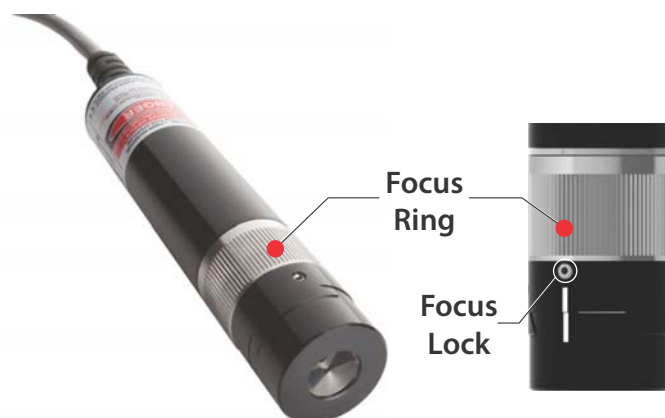

Figure 3-8. Focus Ring and Focus Lock
1. Using the 0.035 hex wrench (provided), loosen the screw for the focus lock. This is identified by a straight white line under the screw, as shown in Figure 3-8.